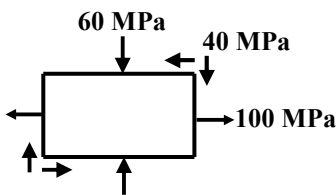

FIGURE-3 Q-4 (a)
- Q.4 (a)** Find analytically the principal planes and corresponding stresses for an element subjected to stresses as shown in figure-3. **07**